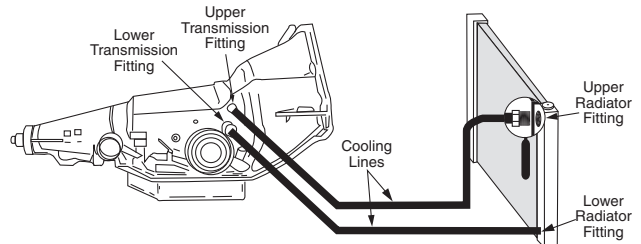

Figure 43. Hookup Top Radiator Line
For the hookup procedure, we will use as an example an illustration that represents a 1992 Chevrolet 4-door Blazer, Figure 43.
3. If available, use a transmission cooling line wrench (an open end wrench, flare nut wrench, or adjustable wrench) to remove the cooling line from the radiator (see Figure 43).